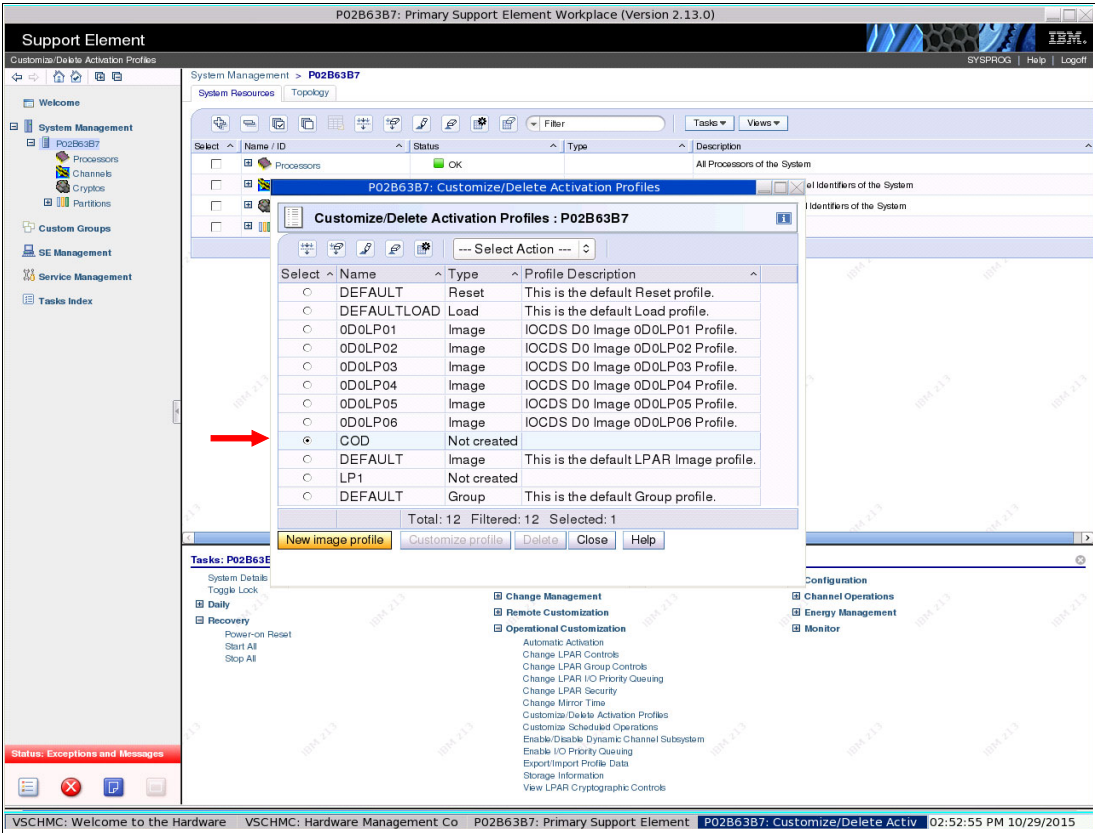

Figure 5-30 New Image Profile definition
2. We select **COD LPAR** and **New Image Profile**, as shown in Figure 5-30.